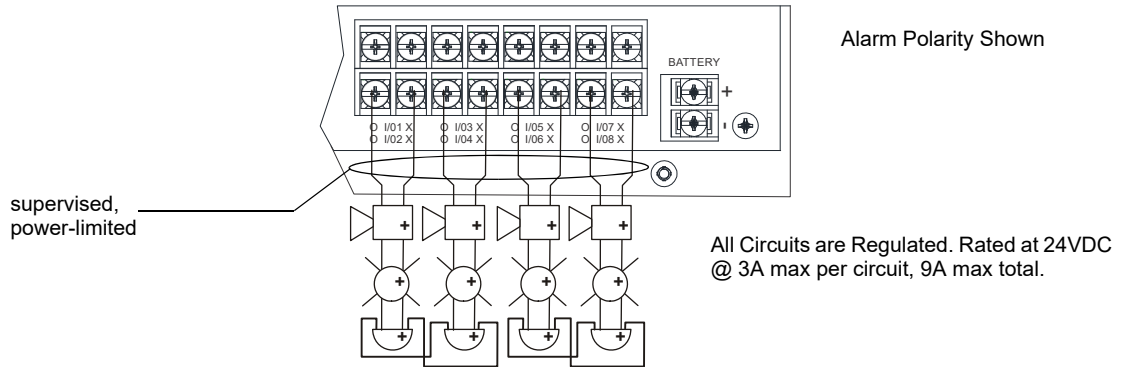

Figure 4.45 Class A Notification Appliance Circuit Wiring
1. Wire the Class A notification appliances as shown in Figure 4.45.
NOTE: In programming any point that uses multiple Flexput circuits, the lowest Flexput circuit number is used to refer to the circuit pair. For example, Figure 4.45 uses both Flexput circuit 1 and 2, so in programming, these would be referred to as point 1.